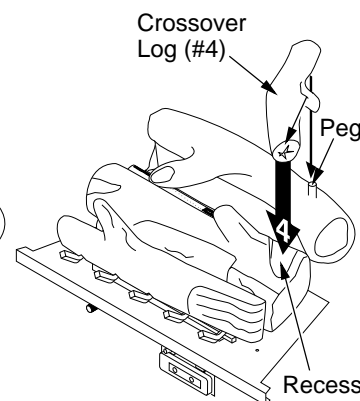

Figure 52 - Installing Crossover Log (#4)
4. Place crossover log (#4) onto the peg (right) on back log (#2) and into the recess of the middle log (#1) (see Figure 52).